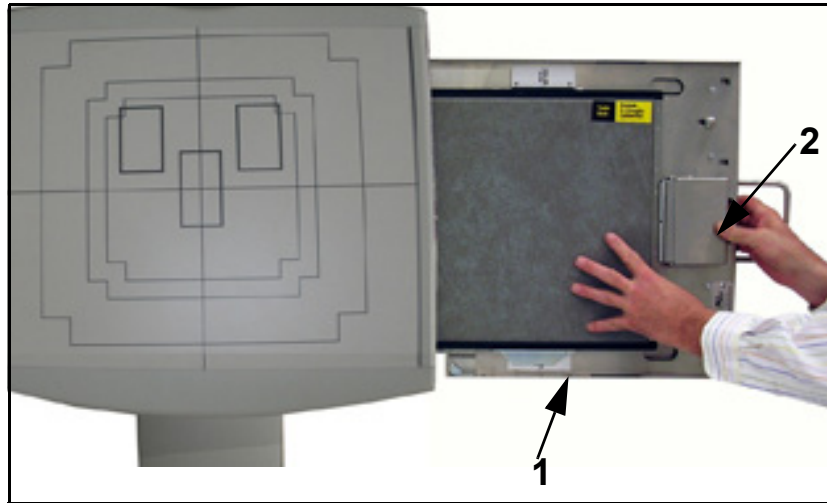

Figure 3-4. Cassette & Clamp
- 4 Insert cassette (1 in Figure 3-4) into tray.
- 5 Slide the clamp (2) up to cassette and close the clamp.